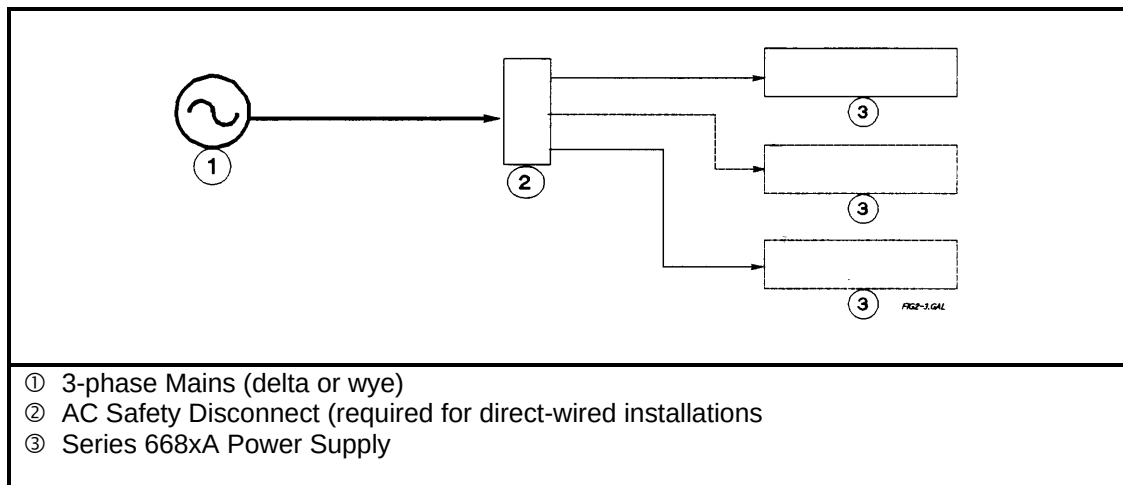

Figure 2-4. Series 668xA Overall Wiring Diagram.
The power supply requires a 3-phase power source that provides 7350 VA (6000 W) maximum. The power supply has a delta input (no neutral connection) and will accept power from either delta (triangle) or wye (star) sources. Two voltage ranges are available (see "AC Input Ratings" in Table 1-4a). *In order to maintain phase current balancing, the power source should be a dedicated line with only Agilent Technologies Series 668xA supplies drawing current from it . A disconnect box located near the power supply (see Figure 2-4) is recommended for all installations and is mandatory for direct-wired installations.*
- c. **Series 668xA** - Unscrew the fuse caps from the rear panel (2, Figure 2-4). Verify that the fuse is as specified on the label. Replace the fuse.